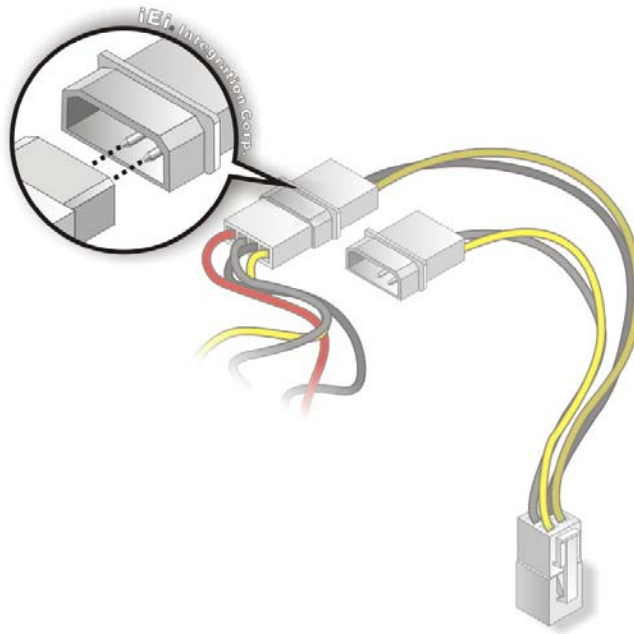

Figure 4-11: Connect Power Cable to Power Supply
Step 3: **Connect Power Cable to Power Supply.** Connect one of the 4-pin (1x4) Molex type power cable connectors to an AT power supply. See **Figure 4-11**.